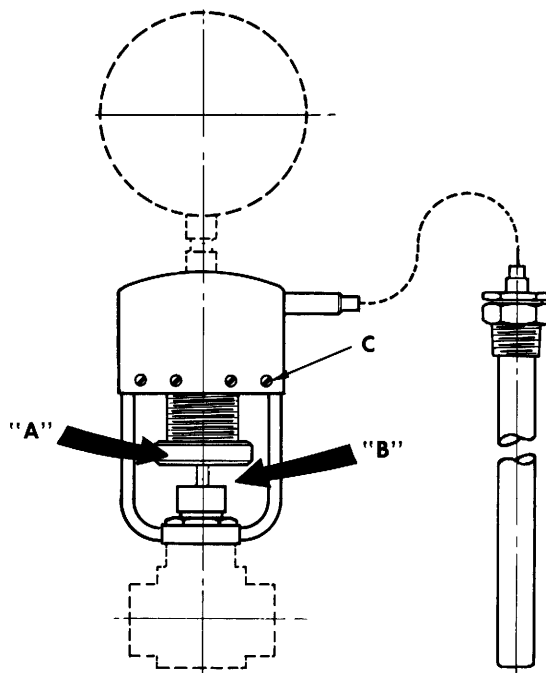

Figure 7
To RAISE temperature setting, turn adjustment wheel to RIGHT (see arrow "A") (Figure 7).
To LOWER temperature setting, turn adjustment wheel to LEFT (see arrow "B") (Figure 7).
3. Turn adjusting wheel to left (see arrow "B" (Figure 7) until wheel is all the way down.
4. Remove screws "C" (Figure 7) and lift off element.